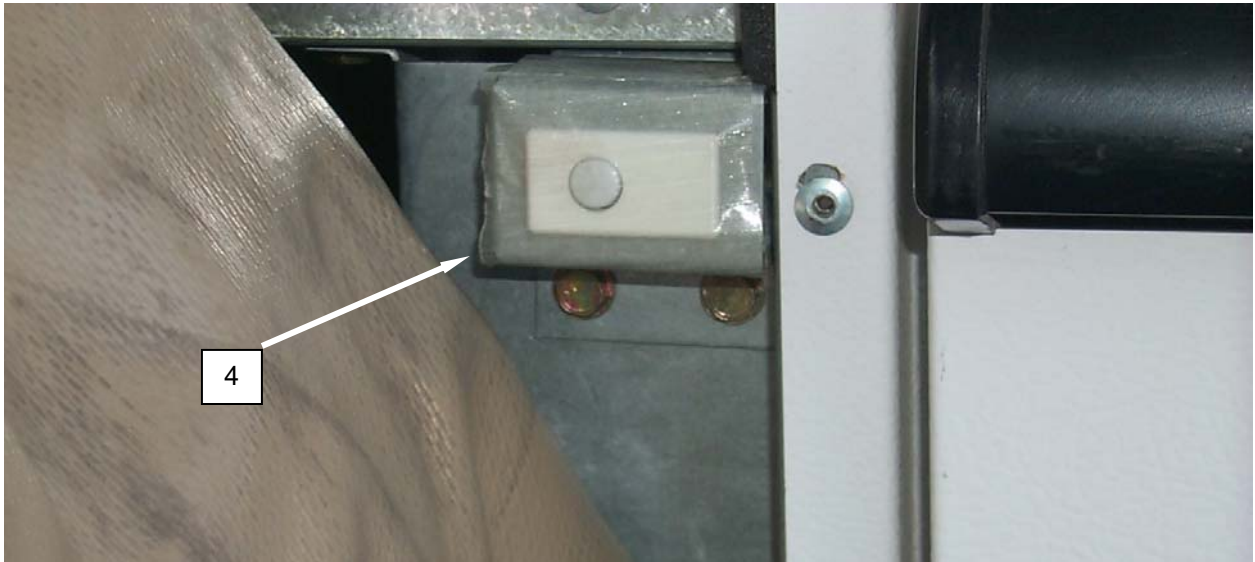

Figure 4. Apply Tape to Lint Compartment Switches.
8. Apply tape to the lint compartment switches (**Figure 4, Item 4**) on the dryers in order to prevent damage to the switch plungers.